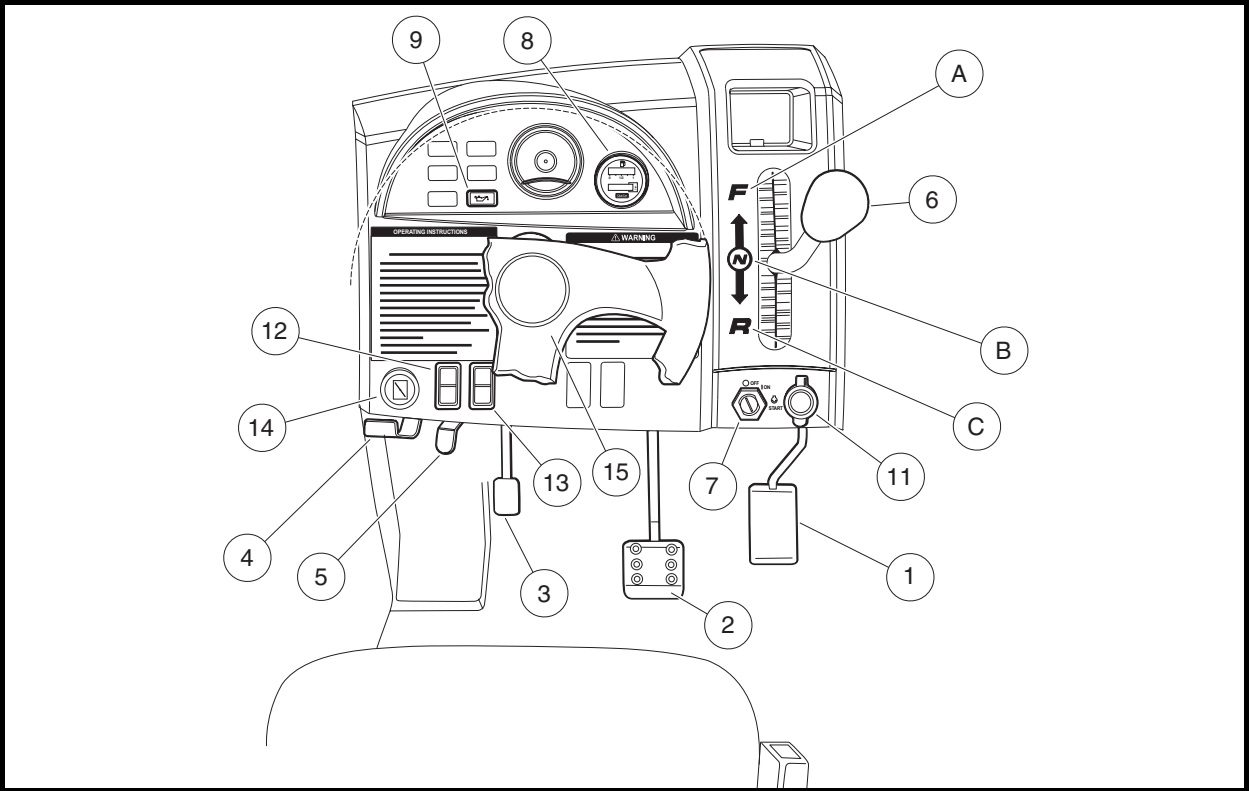
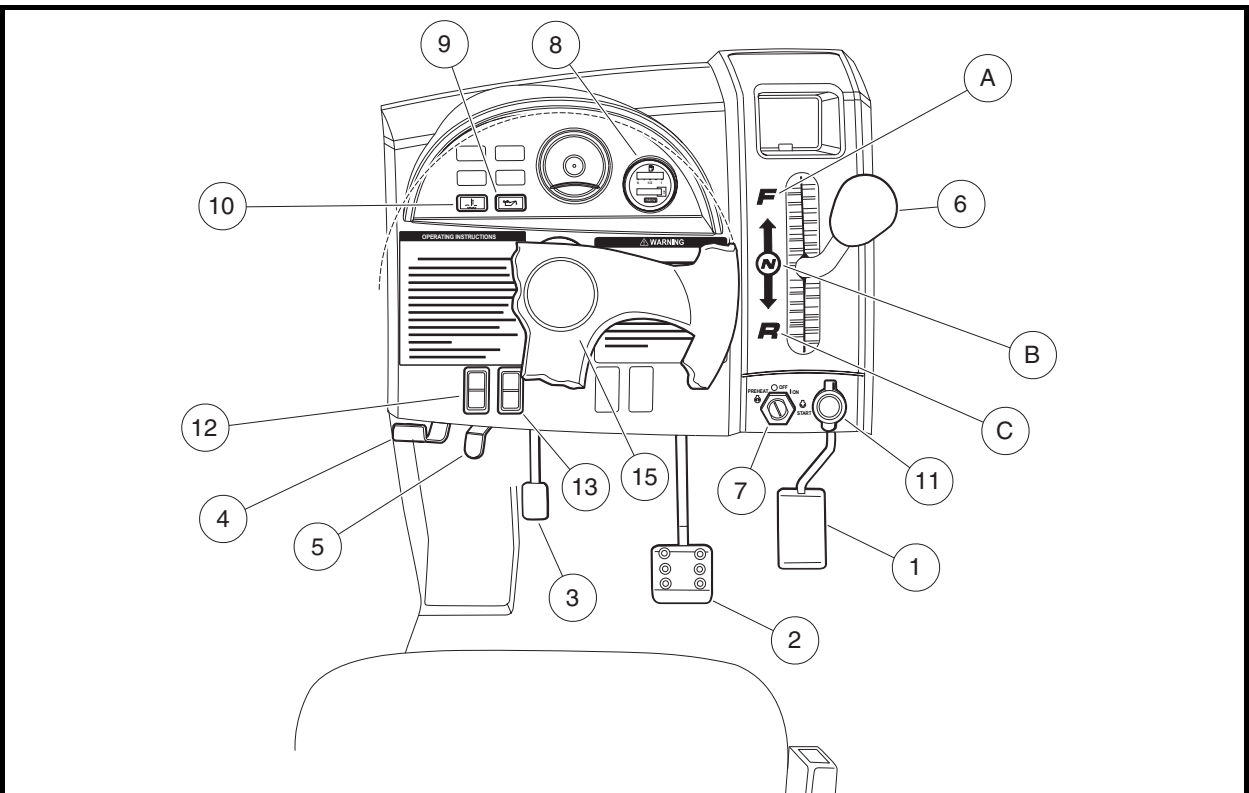
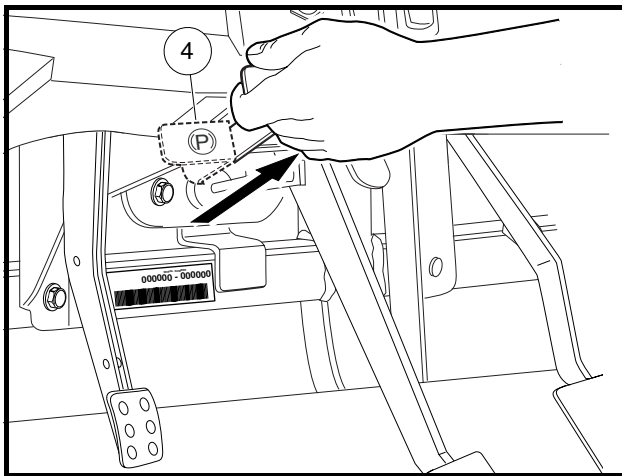

Figure 4 Instrument Panel – Gasoline Vehicles
Figure 5 Instrument Panel – Diesel Vehicles
Figure 6 Park Brake Release
The key switch (7) is mounted on the instrument panel to the right of the steering column (**Figure 4, Page 11**). It has three positions: OFF, ON, and START.
The key switch (7) is mounted on the instrument panel to the right of the steering column (**Figure 5, Page 11**). It has four positions: PREHEAT, OFF, ON, and START.
The Forward/Reverse handle (6) is located on the right side of the instrument panel (**Figure 4 and Figure 5, Page 11**). The handle has three distinct positions: FORWARD (A), NEUTRAL (B), and REVERSE (C). Push the handle up to operate the vehicle in the forward direction, or pull the handle down to operate the vehicle in reverse. The engine can be started only when the handle is in the NEUTRAL (middle) position. The engine must be at idle before shifting the Forward/Reverse handle. **See WARNING and CAUTION on page 12.**
The accelerator pedal (1) is the pedal farthest to the right (**Figure 4 and Figure 5, Page 11**).
The brake pedal (2) is located to the immediate left of the accelerator pedal (**Figure 4 and Figure 5, Page 11**). To slow or stop the vehicle, press the brake pedal.
The park brake pedal (3) is located to the left of the brake pedal (**Figure 4 and Figure 5, Page 11**). To engage the park brake, first apply pressure to the brake pedal, then firmly press the park brake pedal until it latches into place. To disengage the park brake, pull the park brake release handle (4) (**Figure 6**). **See following WARNING.**
The steering wheel position is adjustable. To adjust the steering wheel position, press down on the steering adjustment lock lever (5), then move the steering wheel to the desired position (**Figure 4 and Figure 5, Page 11**). While holding the steering wheel in the desired position, pull up on the steering adjustment lock lever to firmly lock the steering column in position. **See following WARNING.**
The 12-volt accessory outlet (11) is located to the right of the key switch (**Figure 4 and Figure 5, Page 11**). It provides a constant 12VDC with the key switch in the ON or OFF position. **See following NOTE.**
The low oil warning light (9) is located on the instrument panel just to the left of the steering column (**Figure 4 and Figure 5, Page 11**). If the warning light lights up, oil should be checked and added to the engine as necessary before vehicle use continues. The vehicle should never be driven when the low oil warning light remains lit. If the warning light alternately lights and darkens, the vehicle may be driven, but oil should be added at the first opportunity. If the oil level is correct and the warning light remains lit, have a trained technician check the vehicle. **See following CAUTION.**
The fuel gauge and hour meter (8) are housed together on the right side of the instrument panel (**Figure 4 and Figure 5, Page 11**). The fuel gauge operates when the key switch is in the ON position and allows the operator to monitor the fuel level in the vehicle. The hour meter operates only when the engine is running, and should be used by the trained technician to track vehicle usage and determine when periodic service procedures are required. **See Periodic Service Schedule on page 29.**
The headlight control (12) is located on the left side of the instrument panel (**Figure 4 and Figure 5, Page 11**). Press the headlight rocker switch to turn the headlights on or off. **See following NOTE.**
The electric bed lift switch (13) is located on the instrument panel to the left of the key switch (**Figure 4 and Figure 5, Page 11**). **See following NOTE.**
The high-temperature warning light (10) is located on the instrument panel to the left of the steering column, next to the low oil warning light (9) (**Figure 5, Page 11**). The diesel engine is liquid-cooled; if the engine coolant has exceeded its normal safe operating temperature, the warning light will illuminate. If the warning light lights up, stop the vehicle and allow it to idle for approximately five minutes before stopping the engine. Contact the dealer/distributor or a trained technician. **See following WARNING.**